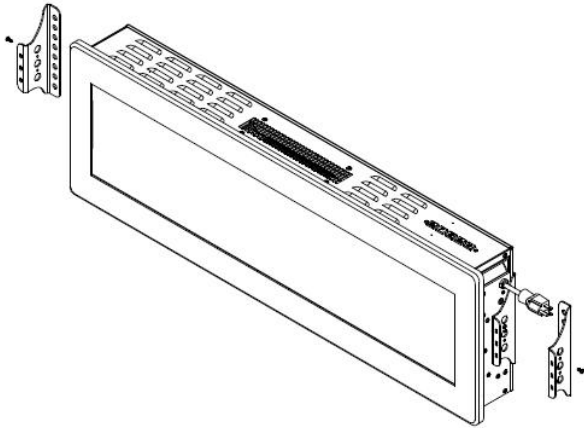

Fig.1
* If your fireplace come with log-set, remove the log-set from the package, put it to the fireplace designed place. **Figure 1**
* Then place the crystal embers carefully into the bottom tray on the front of the appliance as illustrated. Apply an even layer from side to side. **Figure 1**